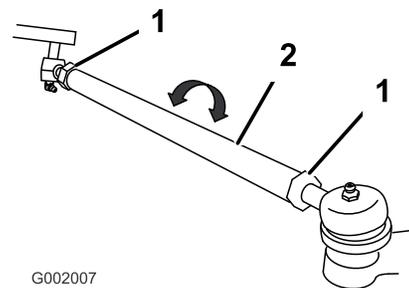

Figure 34
5. If the measurement does not fall within the specified range, loosen the jam nuts at both ends of the tie rods (Figure 34).